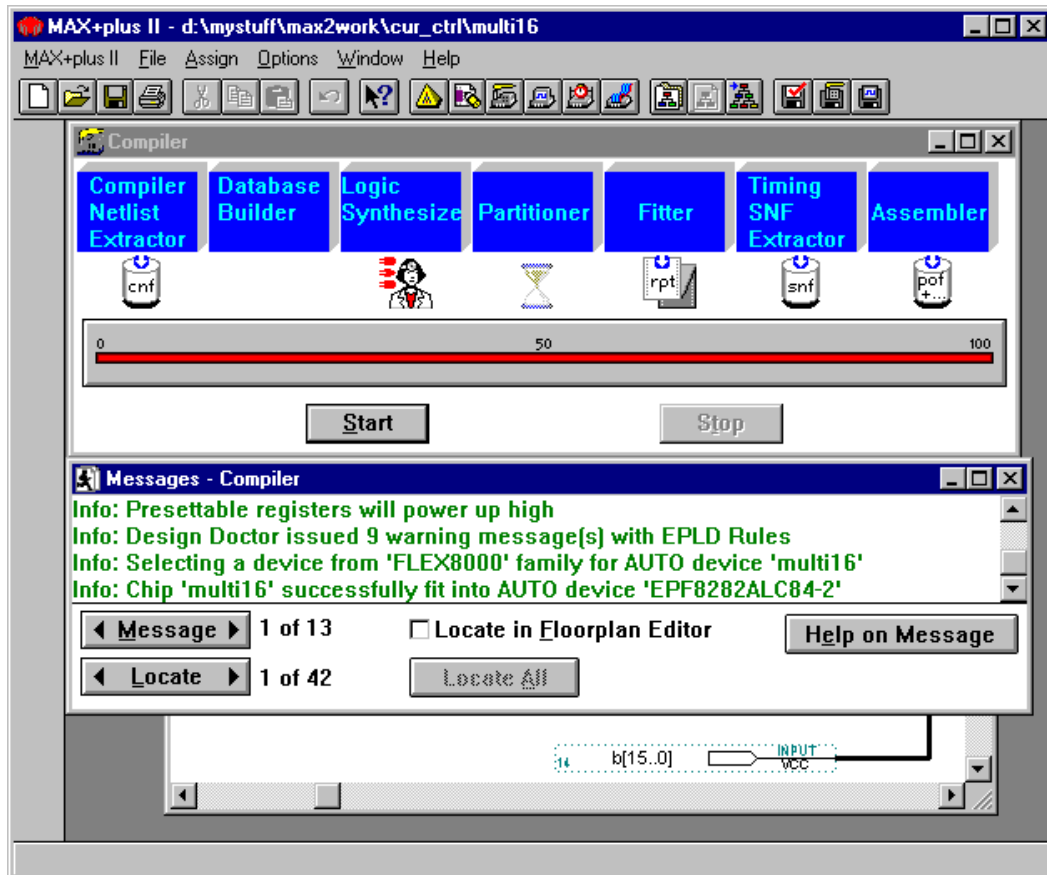

Figure 11 : Compiler screen after compilation.
- Compiles a project to produce simulation, timing and programming files. See Figure 11 for a view of the compiler window.